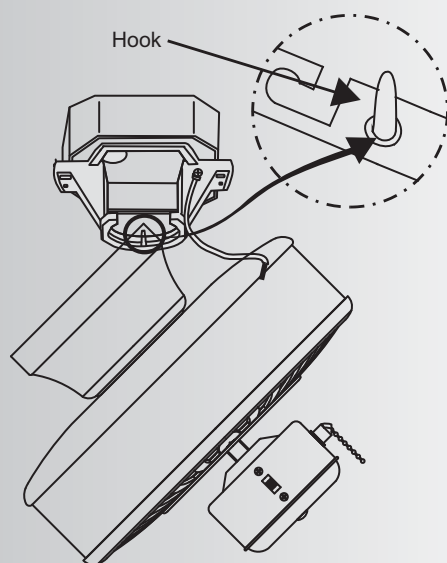

Fig. 10
Step 2. Hang the fan on the ceiling mounting bracket by inserting the hook on the inside edge of the ceiling mounting bracket through one of the screw holes in the ceiling canopy (Fig. 10). This will allow you to have both hands free to make the wiring connections.